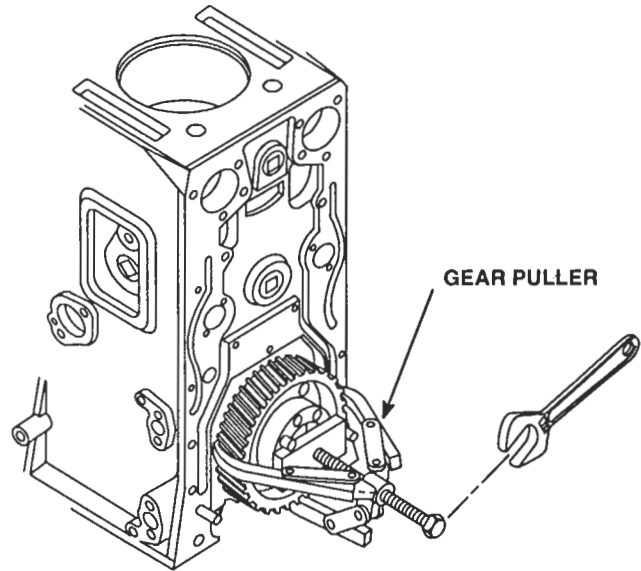

Figure 1. Crankshaft Timing Gear Removal
4. Provide a base for the puller screw by placing a steel plate across the cavity in the end of the crankshaft. Then remove the gear with a suitable puller (Figure 1.)